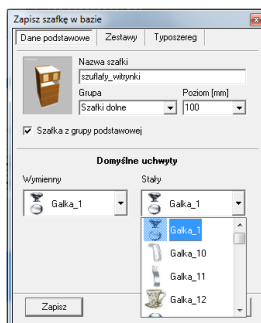

Fig. 185 – entering basic data
- in the new dialog box (**Save the cabinet to the database**) you can enter some basic data about the cabinet (name, group, insertion level) and assign it to the basic cabinet group or choose the model of handles (**Basic data** tab – Fig. 185);